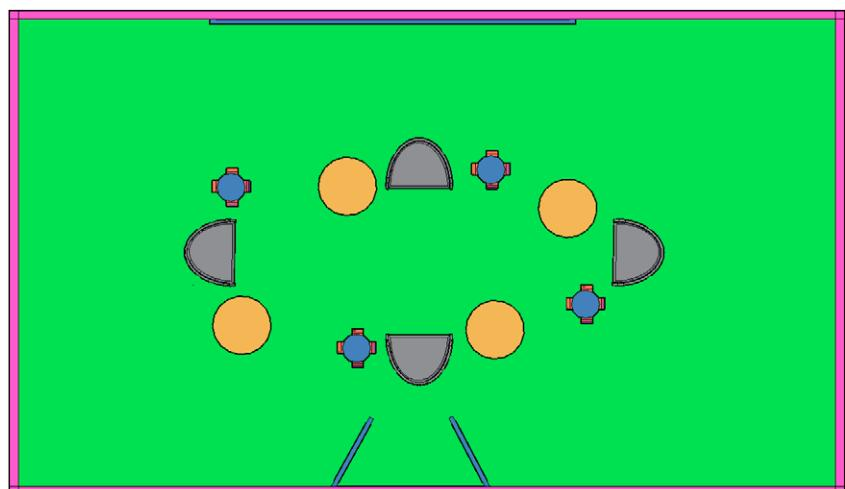

Fig. 15.42 **Top** view of the furniture inserted, copies and places in position
3. Insert the table, copy it 3 times and move the copies to suitable positions (Fig. 15.42).